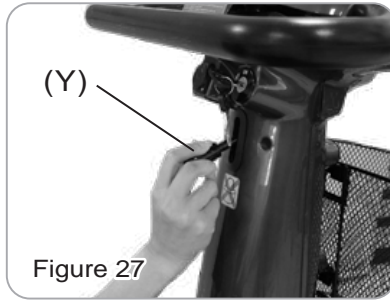
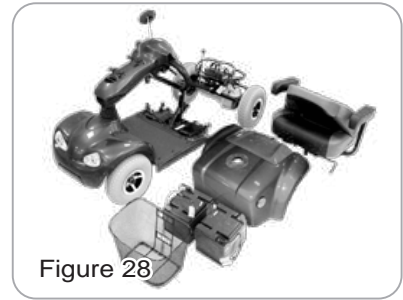

Figure 27
Figure 28
Push down the Tiller Angle Adjustment (Y) to fold the tiller in a lower position. (See Fig. 27) Once all the parts have been disassembled, you are now able to put the pieces in storage or in a vehicle for transportation. (See Fig. 28)